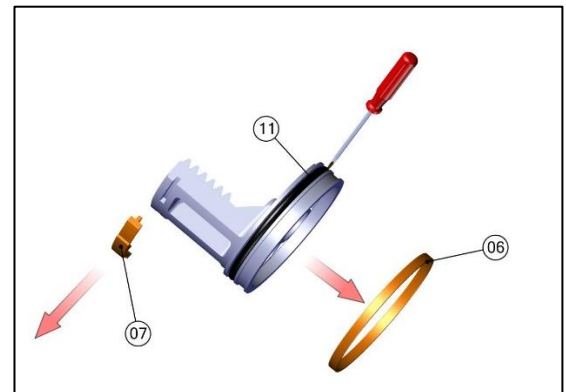

Fig No.16
- b) Remove the Piston O-ring (11) using screw Driver. (refer Fig No.16)
c) Remove the Piston Guide Band (06) & Piston Pad (07) for replacement. (refer fig no.16)